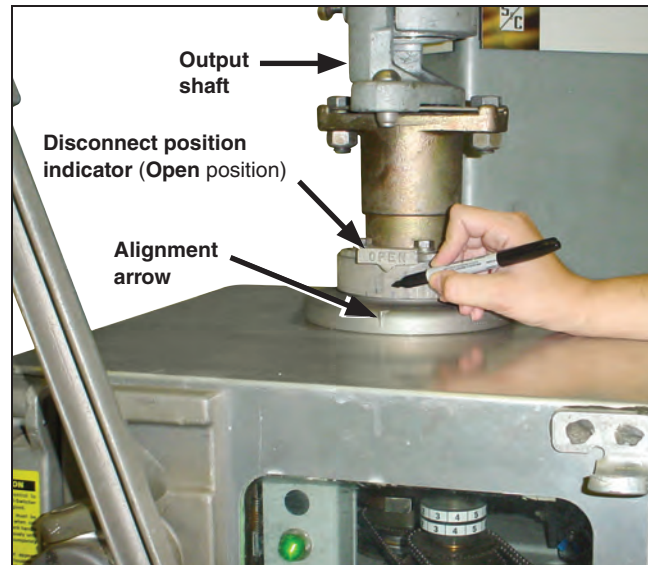

Figure 55. Adjust position indicator. Mark direction of rotation on operator.
**STEP 3.** With the SELECTOR handle in the **Coupled** position, crank the disconnect to the fully **Open** position and then accurately align the disconnect position indicators on the output-shaft collar of the switch operator with the alignment arrow below. See Figure 55.
- (a) With the SELECTOR handle in the **Coupled** position, manually crank the disconnect to the fully **Open** position and then to the fully **Closed** position. Temporarily mark on the top of the switch operator enclosure the direction in which the output shaft rotates to close the disconnect. See Figure 55.